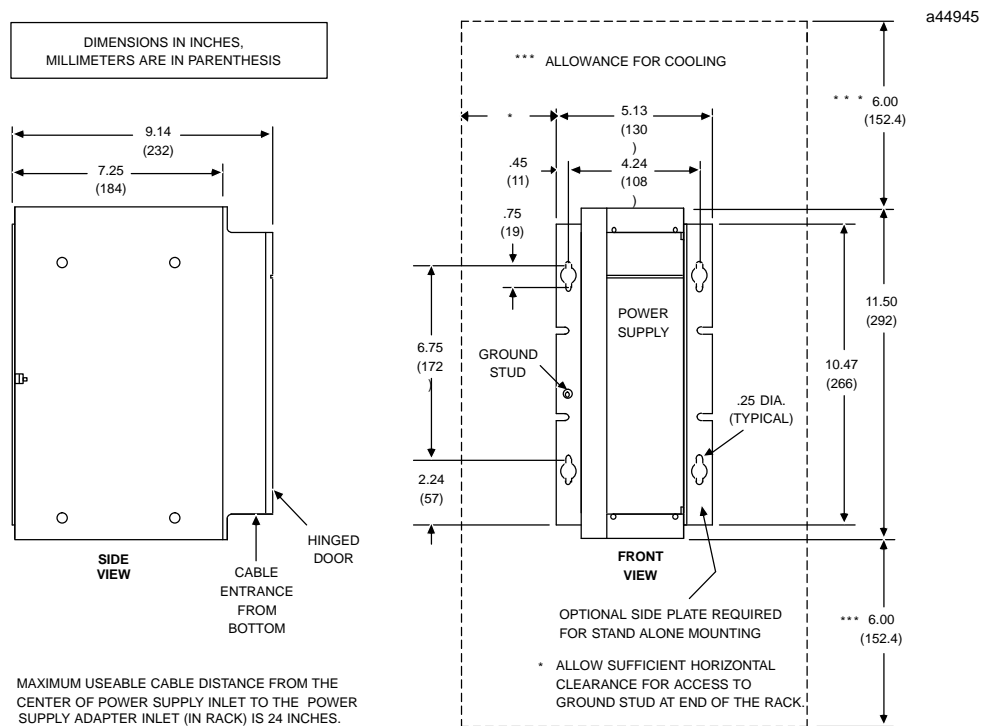

Figure 4. 24 VDC Power Supply Installation: Stand Alone
- As shipped from the factory, with the right side plate attached, it can be used as a stand alone unit by mounting it on a panel (see Figure 4).